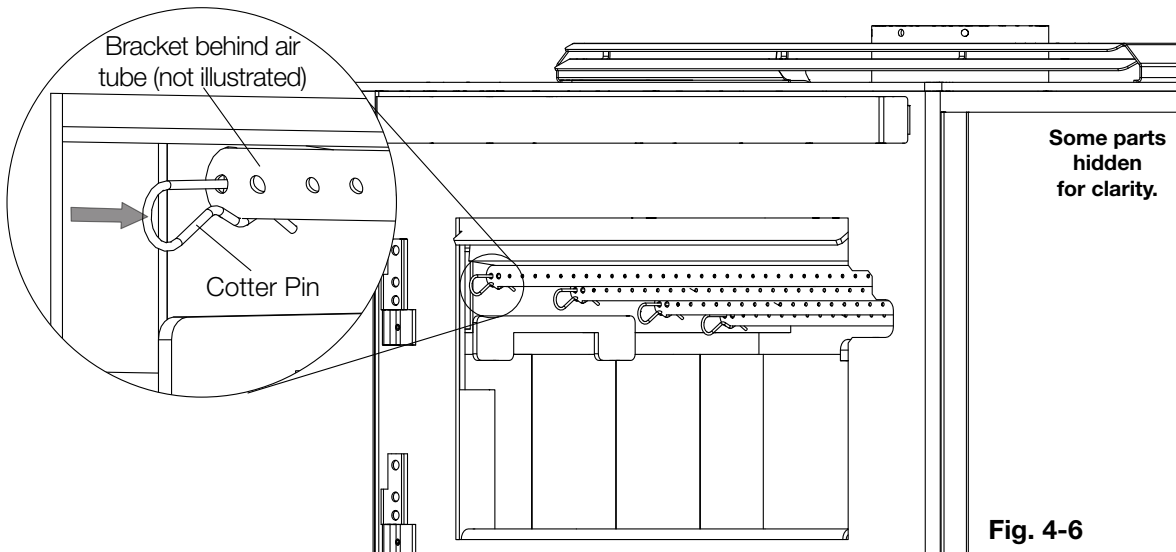

Fig. 4-6
3. Align the hole in the secondary air tube with the hole in the bracket inside the left side of the firebox, and then insert a cotter pin (supplied) (**Fig. 4-6**).